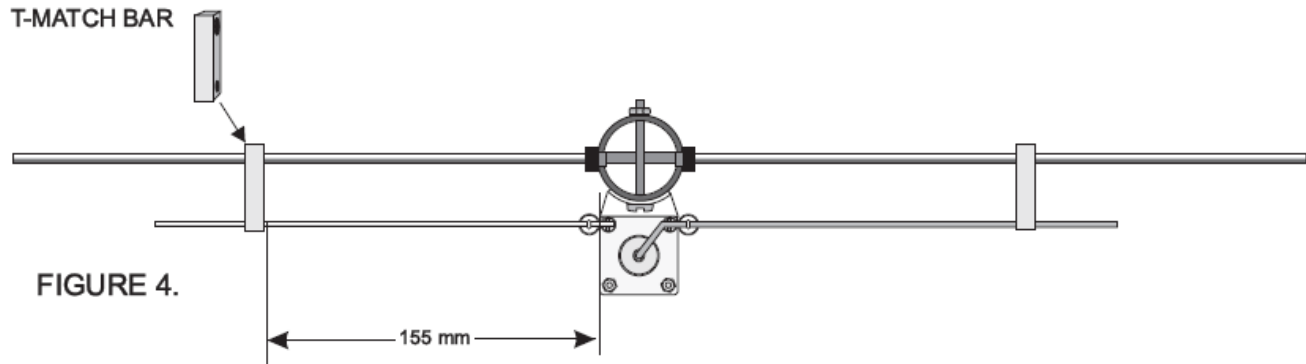

FIGURE 4.
- 6) The driven element and T-match assembly are built as shown in Figures 4 & 5 and the photographs below.
- 7) Locate the two brass T-arms. Both are preformed- one is straight while the other is bent and on one end. Locate also the brass T-match shorting bars, and position them on the brass driven element as shown in Figure 4.